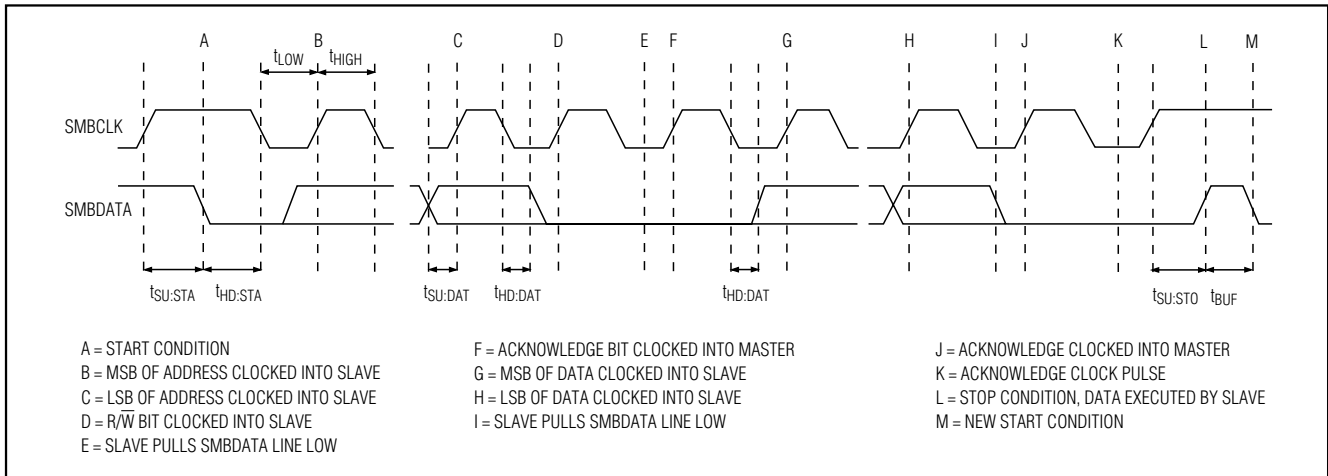

Figure 15. SMBus Write Timing
municating with the slave, the master issues a STOP condition (P), which is low-to-high transition on CRF/SDA, while CTL/SCL is high. The bus is then free for another transmission. Figures 15 and 16 show the timing diagram for signals on the 2-wire interface. The address-byte, command-byte, and data-byte are transmitted between the START and STOP conditions. The CRF/SDA state is allowed to change only while CTL/SCL is low, except for the START and STOP conditions. Data is transmitted in 8-bit words and is sampled on the rising edge of CTL/SCL. Nine clock cycles are required to transfer each byte in or out of the MAX1996A since either the master or the slave acknowledges the receipt of the correct byte during the ninth clock. If the MAX1996A receives its correct slave address followed by  $R/\bar{W} = 0$ , it expects to receive 1 or 2 bytes of information (depending on the protocol). If